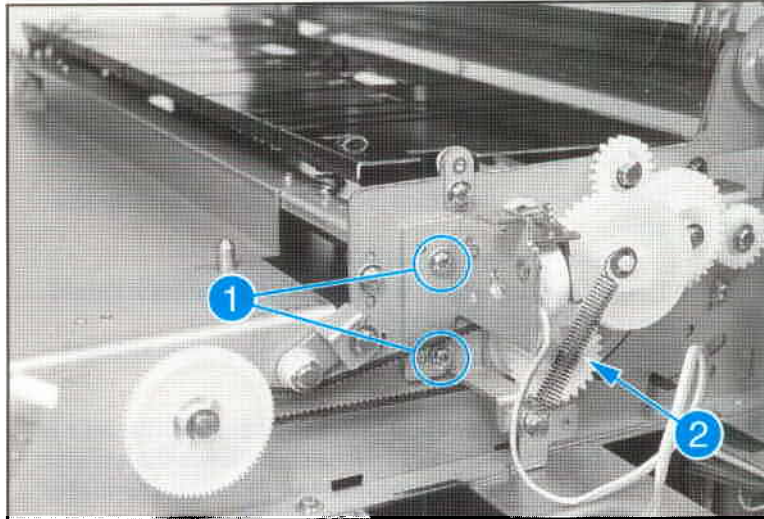

Figure 6-22 SL1 (1st Paper Feed Solenoid) Removal
2. Remove the spring from its post (see Figure 6-22, item 2).
3. Remove (2) M3X4 Panhead screws that hold SL1 (see Figure 6-22, item 1).
Ensure that the belt is routed under the idler roller as shown in Figure 6-22.